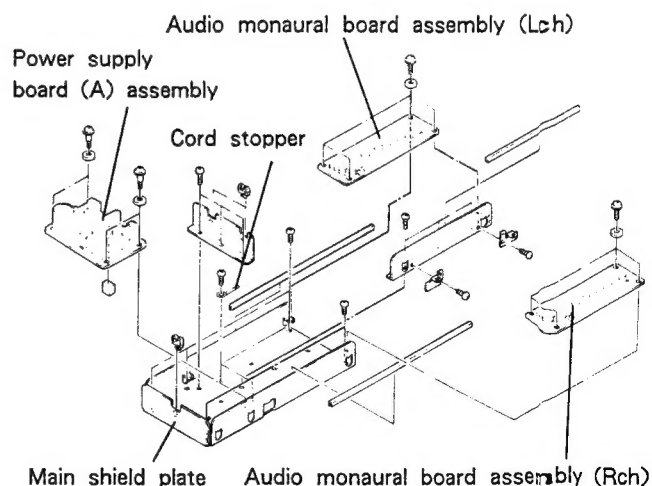

Fig. 3-1.
1. Remove the three assemblies of the audio monaural boards (Lch), (Rch) and the power supply board (A). (Remove for the output pin jack portion with a soldering iron.)
2. Remove the main shield plate (6 screws). It is possible to turn on the power and check the servo circuit in this state. (Refer to Fig. 3-1 for the position to install each assembly mentioned above.)